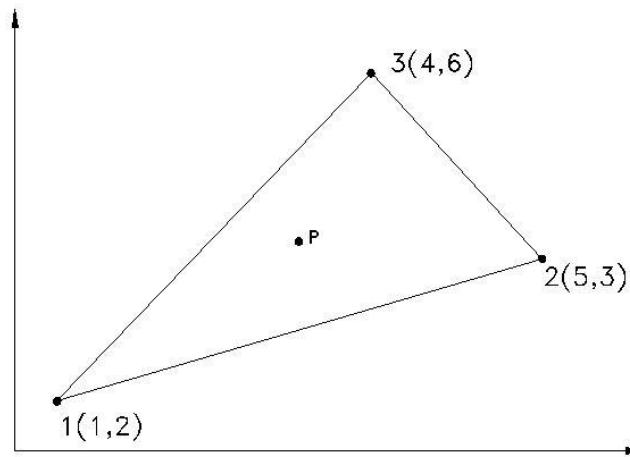

Figure 5
- (b) The nodal coordinates of the triangular element are as shown in figure 5 below. **07**